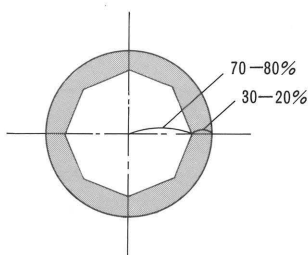

Fig. 15
- 4) In order to achieve optimum objective performance, the opening of the field iris diaphragm should circumscribe the field of view. It is often preferable, however, to stop down the aperture iris diaphragm by about 70 to 80% of the objective N.A. (Fig. 15)